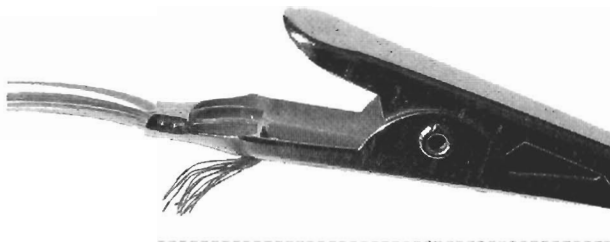

Figure L28-3
4. Twist the end of each wire strand and push this strand through the hole at the base of the clip as shown in detail in Figure L28-3.